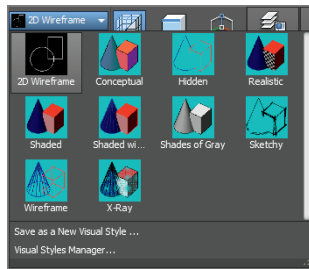

FIGURE 16.2 Selecting a visual style
2. Select the ribbon’s Home tab if it is not already selected, and open the Visual Styles drop-down menu at the top of the View panel (see Figure 16.2).